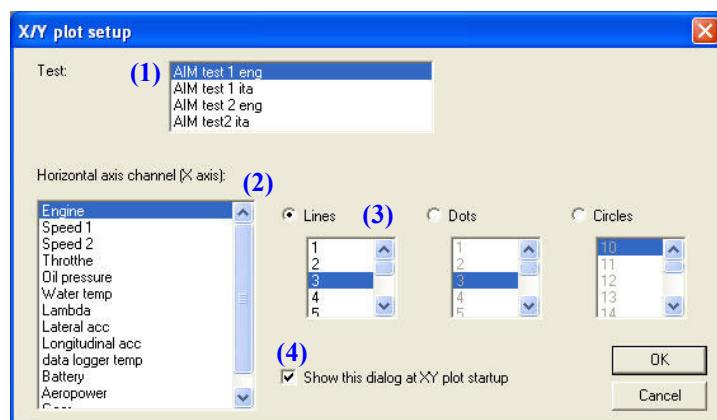

Fig. 4.16– X-Y plot setup window
In Figure 4.16 it is shown the X-Y plot setup window.
If the checkbox (4) is enabled, the window shown in Figure 4.16 will be shown each time the X-Y plot is started. Otherwise, if the checkbox is disabled, it will be shown the X-Y plot; right click inside the graph area to activate the *X-Y Plot setup* window.